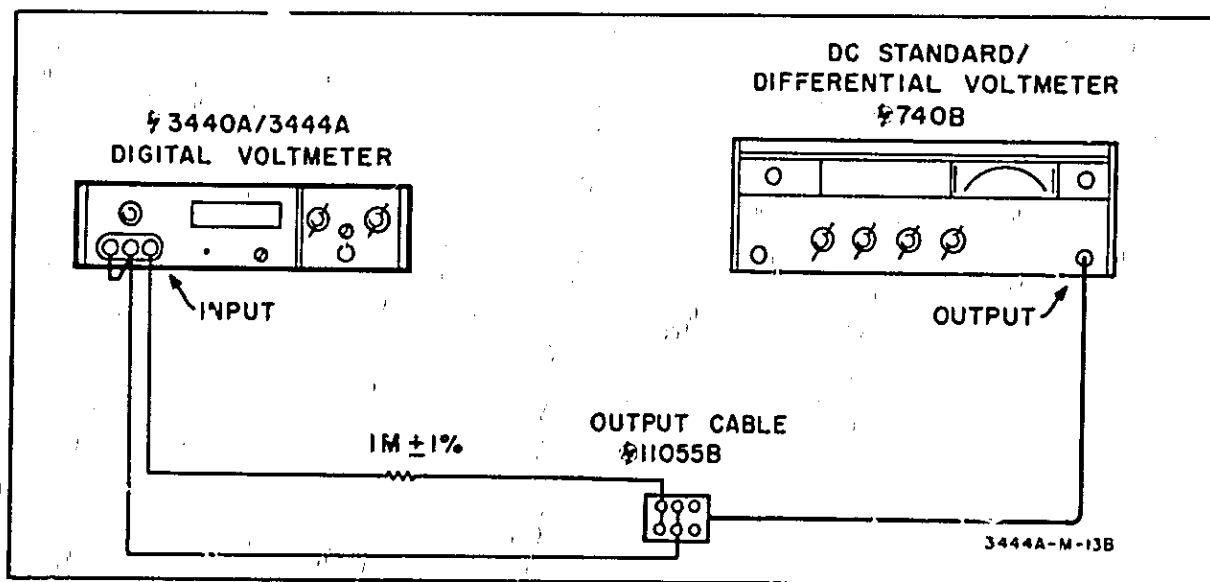

Figure 5-3. Input Resistance Check
- a. Connect equipment as shown in Figure 5-3.